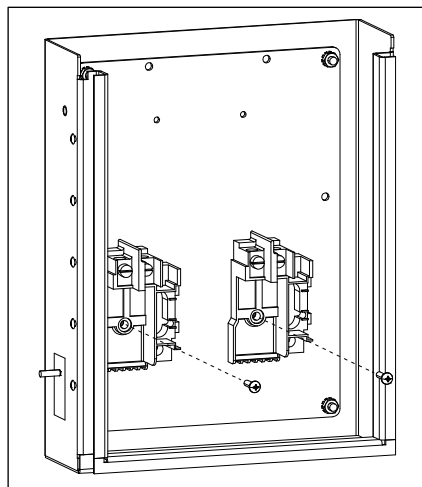

Figure 3 Breaker Holders
1. Install the breaker holders using the two 10-12 (3/4" long) Philips screws (one per breaker cover, Figure 3).